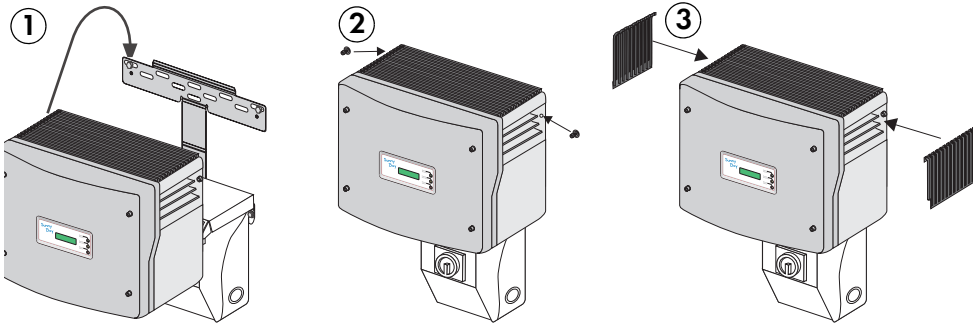

Figure 3-9 Mounting the Sunny Boy
1. Carefully lift the Sunny Boy onto the mounting bracket. Hook the Sunny Boy using the enclosure opening in the back plate into the wall bracket (see # 1 in Figure 3-9).
3. Attach the Sunny Boy to the mounting bracket with the two M6 screws and washers provided through holes next to the fan outputs on both sides of the Sunny Boy (see # 2 in Figure 3-9). The teeth of the washers should face towards the wall in order to ensure proper grounding. Tighten the screws to a torque of 44 in-lb (5 Nm).
4. Snap the left and right handle covers, provided in the accessories kit, into the Sunny Boy (see # 3 in Figure 3-9). Look for the L & R on the inside of the fins. They are required to adequately prevent insects entering the unit.